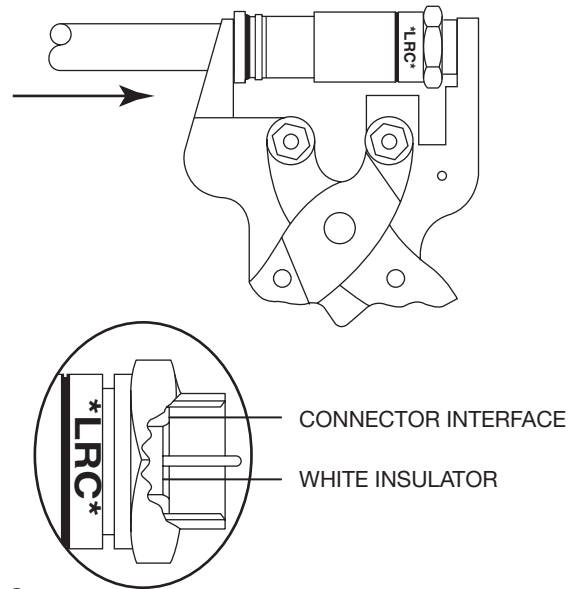

Figure 8
8) Insert connector (with cable) into LRC installation tool #L3011B. Seat plastic sleeve into the pocket of the tool jaw. Squeeze handles together. The black plastic sleeve and the white pin insulator should both snap into place, with o-ring completely hidden under the collar. The white plastic insulator holding the pin, should be below or flush with connector interface, see Figure 8.